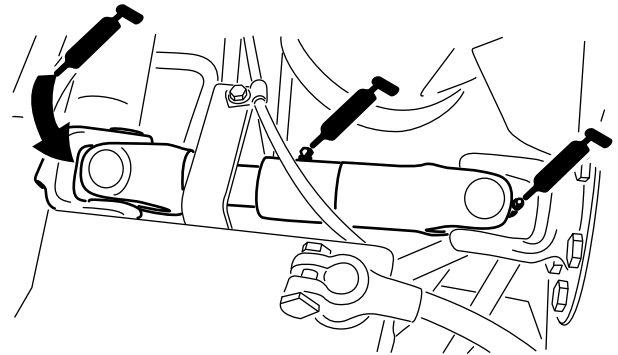

Figure 47
- Pump driveshaft U-joint (3) (Figure 47)